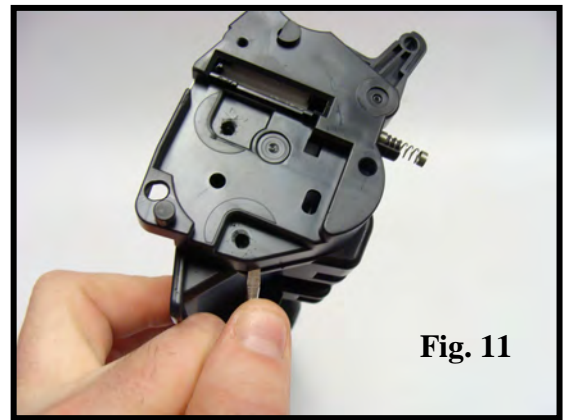

Fig. 11
11. Use a small screw driver to gently pry up on the end cap near the areas drilled (Fig.11).